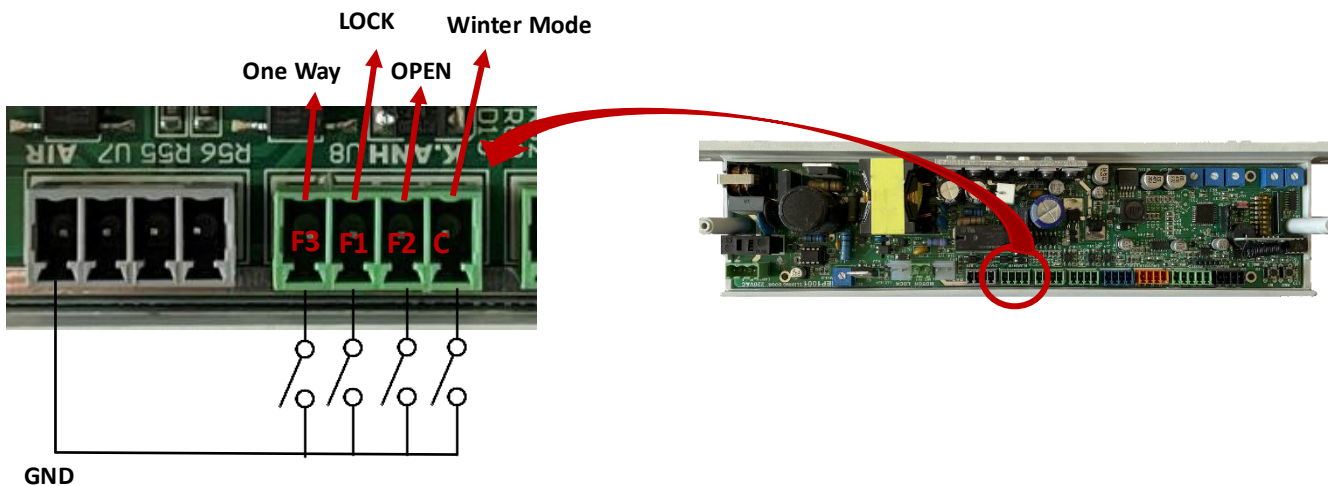

Figure 14: The position switch input's location on the board, close-up view, and input types..
14) RF Module Input: The socket where the RF receiver module is connected is used to control the system remotely with a remote control.. **The direction in which the RF receiver is plugged into the socket is extremely important! The face of the RF receiver that is connected to the antenna should be facing downwards (towards the side where the LEARN and TEST buttons are located) when plugged in! If the RF receiver is plugged in the wrong way, it may cause a short circuit.!** The image and proper installation of the RF receiver are shown in Figure 14. After installing the RF receiver, you can proceed with the programming of the remote control.